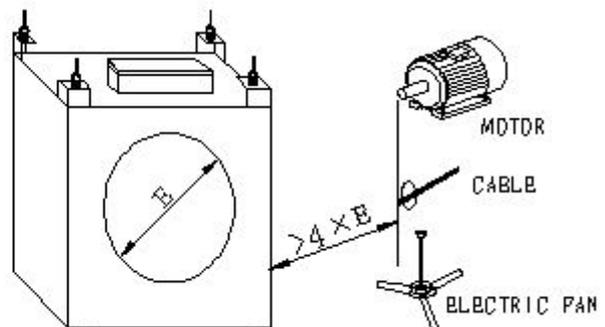

Figure 11.d
c. Metal detector should be firmly installed to avoid misacting when the detector vibrates during usage. The metal detector should be firmly installed to prevent the misoperation caused by the vibration of the detector. The non-metal duct dispatched on delivery go through to the inner cavity of the metal detector and should avoid the collision, furthermore a distance of 5mm should be maintained with the inner cavity. Please see figure 11.c.